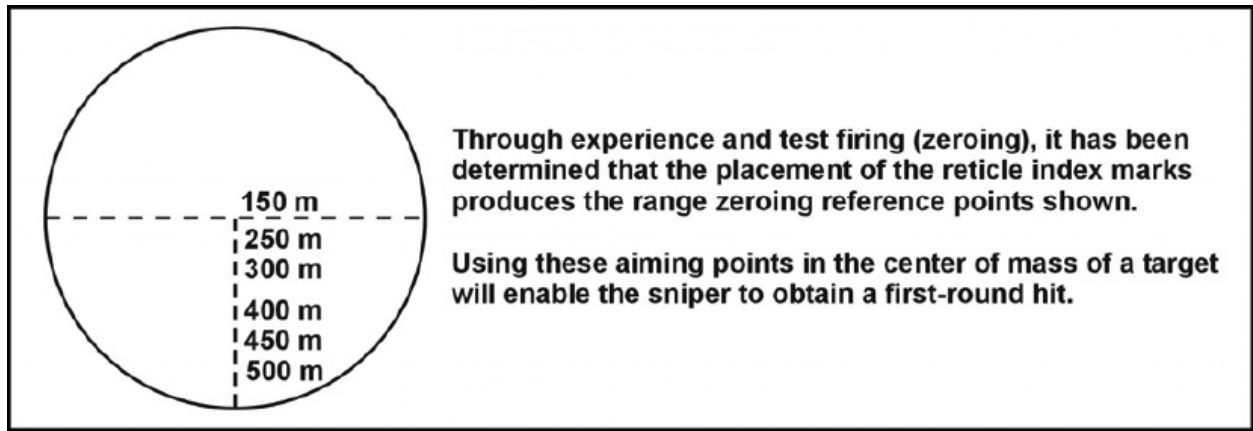

Figure 3-29. The range references and POAs for the AN/PVS-2 black line reticle pattern
- Place the reference POA of the reticle pattern (Figure 3-29) on the center of mass of the target or on a distinct aiming point on the target. Then fire enough rounds to obtain a good shot group. Check the target to determine the center of the shot group in relation to the reticle POA.